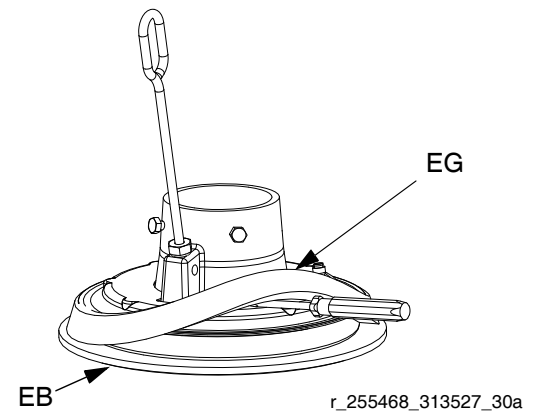

FIG. 8: Remove Spacer
1. *Working from the bottom*, use screwdriver to pry spacer (EG) loose. Work spacer upward completely above the flange of the platen. See FIG. 8.
2. By hand, angle spacer (EG) and work it off the plate, pulling it down over the flange and bottom wipers (EB).
3. Save spacer (EG), as it is required for other applications.